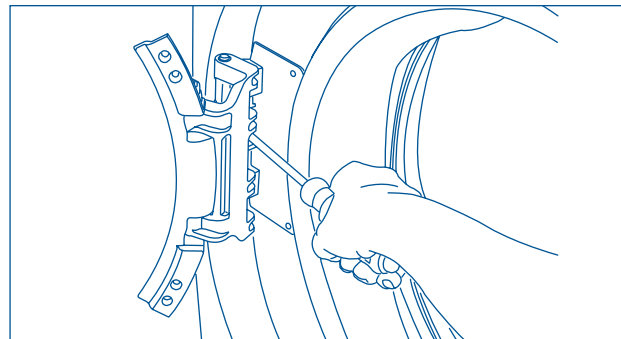

Figure 4-11.
3. Using a #2 square bit screwdriver, extract 3 short, fine thread, countersunk screws in hinge side. (See Figure 4-11)